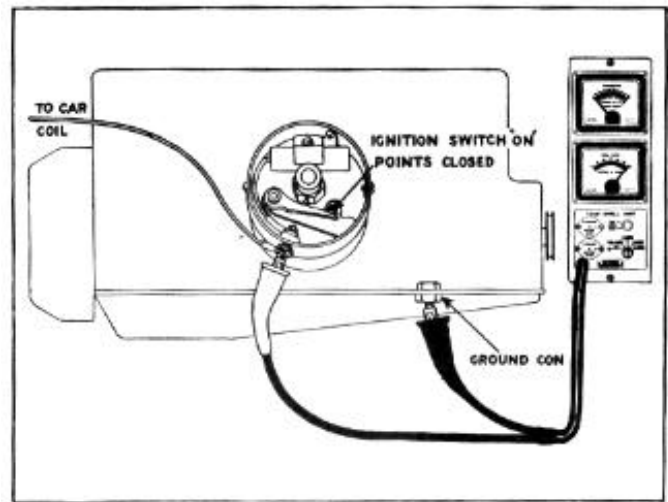

FIGURE 13
1. Connect the negative lead (Sun Tach-Dwell Unit) to the distributor primary terminal, Figure 13. Connect the positive lead to ground until the distributor contact